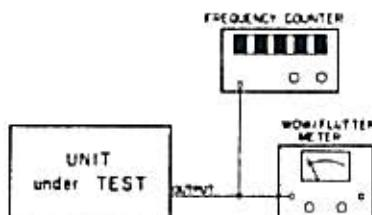

Fig. 1-3-11
1. Connect a Wow-and-Flutter to the deck as shown in Fig. 1-3-11.